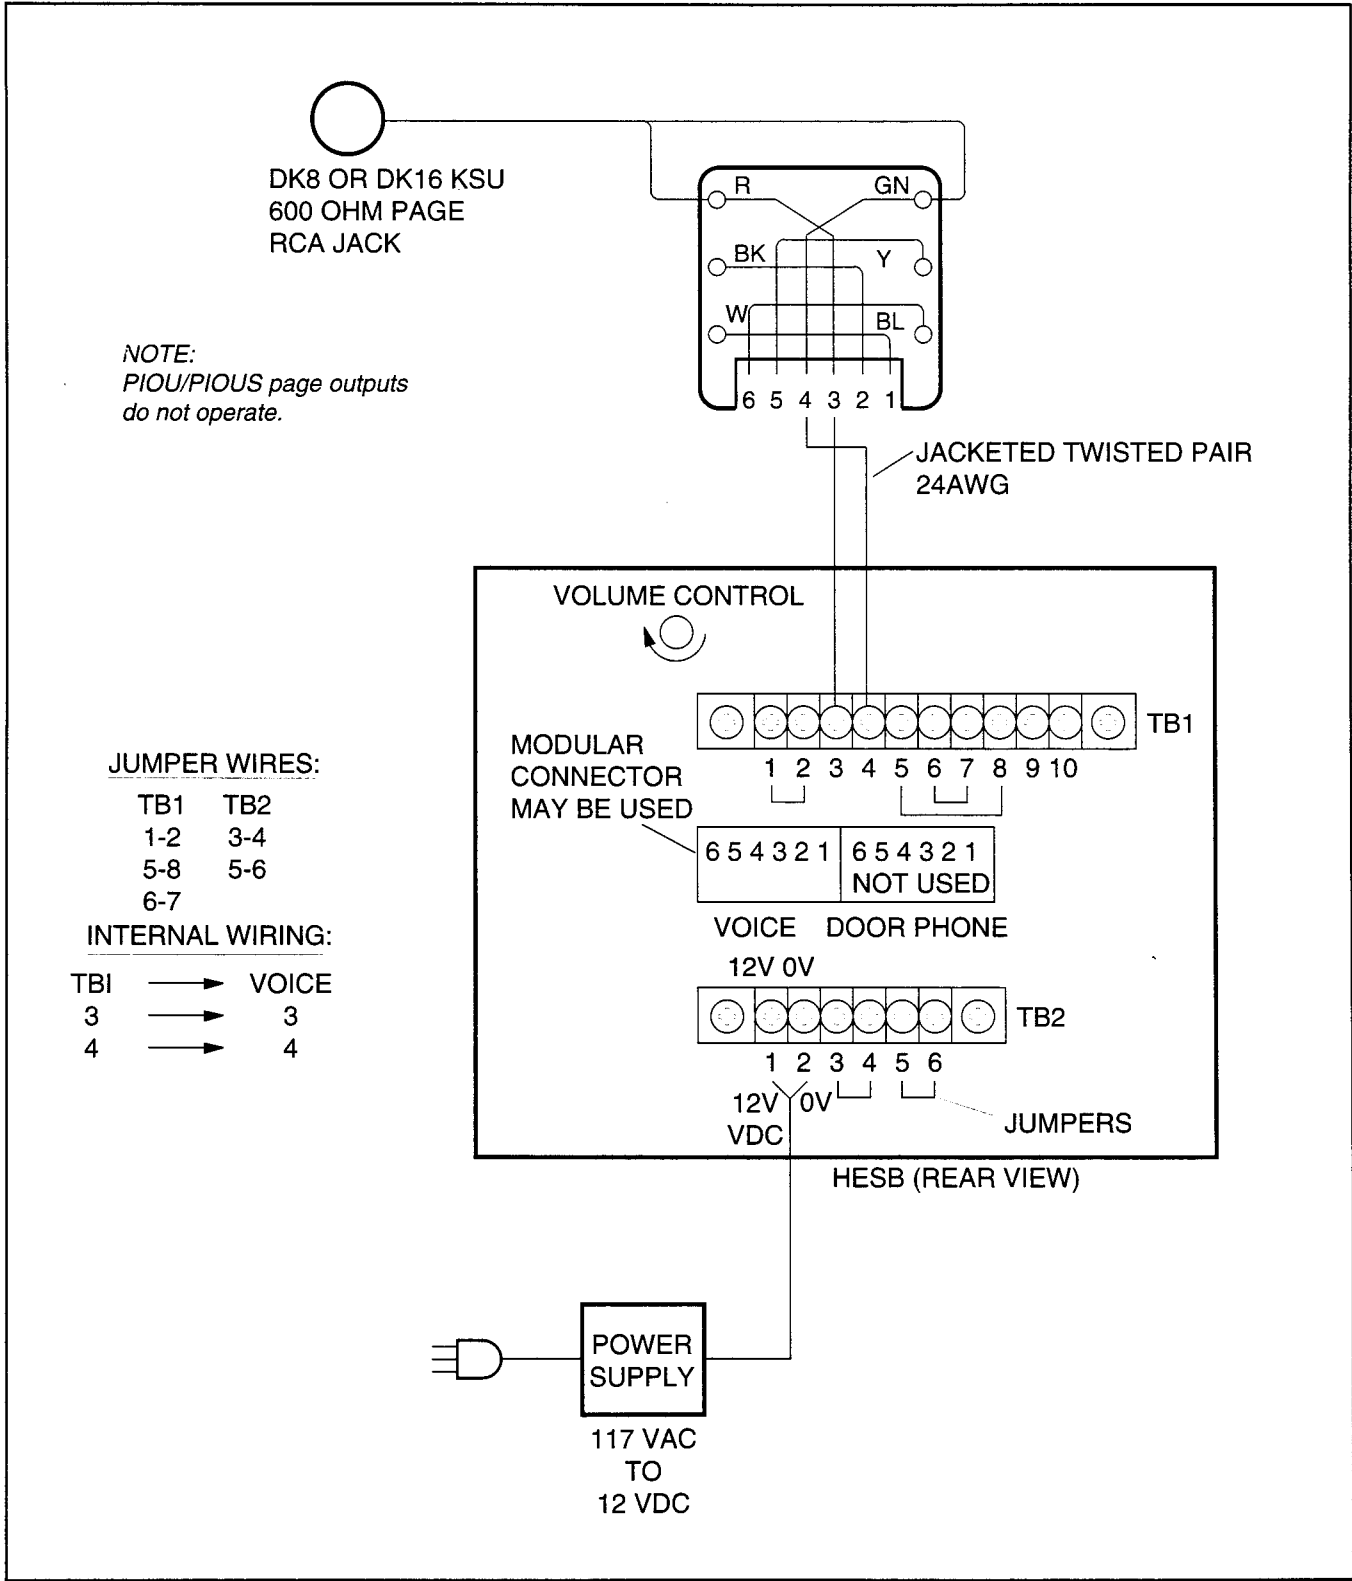

FIGURE 7-12
4.23 Amplified Speaker Installation. Install the HESB Amplified Speaker option in accordance with the following steps (refer to Figure 7-12):